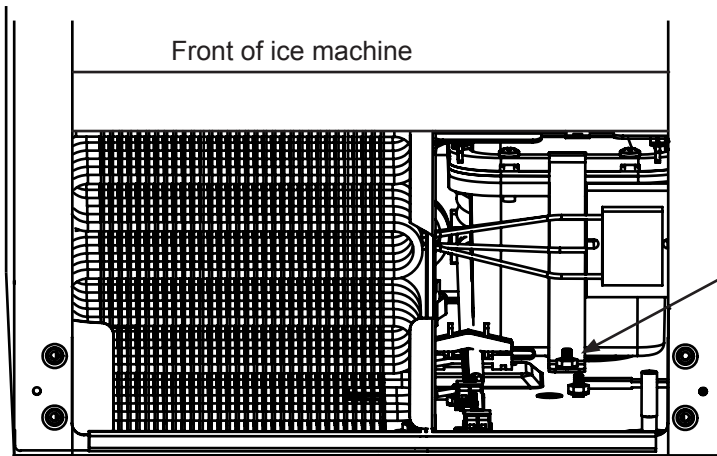

Figure 11
5. Remove the front and rear drain pump brackets. See Figures 11, 11a and 12.